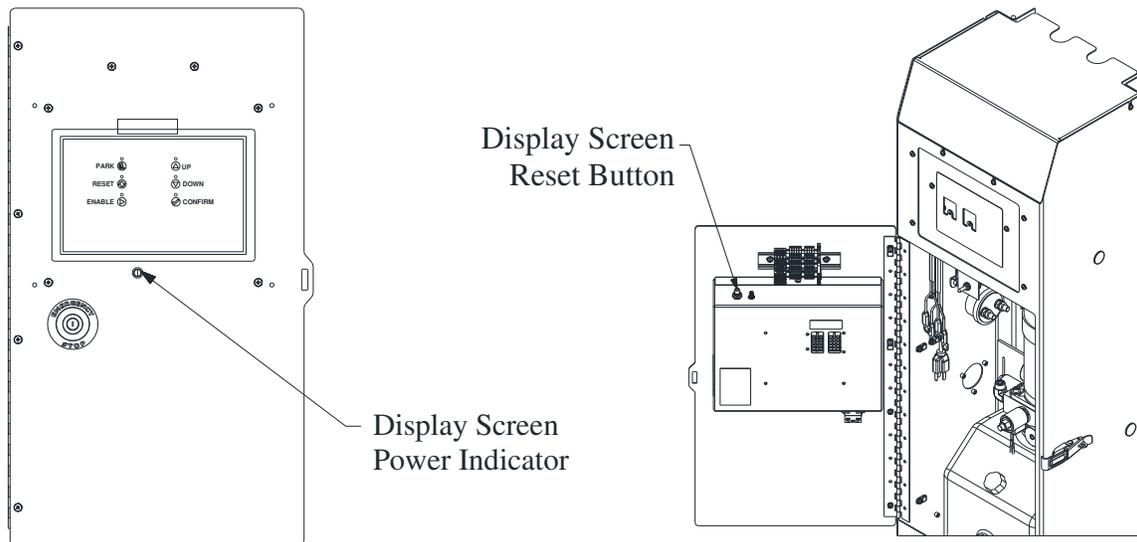

Figure 3. *Control Panel Indicator Light and Display Screen Reset Button Locations*
- a. To shut down the control box turn the master on/off switch on the side of the lift unit to the **OFF** position. The green display screen power indicator light will also turn off once the control box has fully powered down. **NOTE:** Do not restart the control box until the green display screen power indicator light has turned off or else problems may be experienced when the control box restarts. If the control box does not power down after waiting at least 10 seconds then the display screen reset button shown in Figure 3 can be pushed and released to turn off the control box.